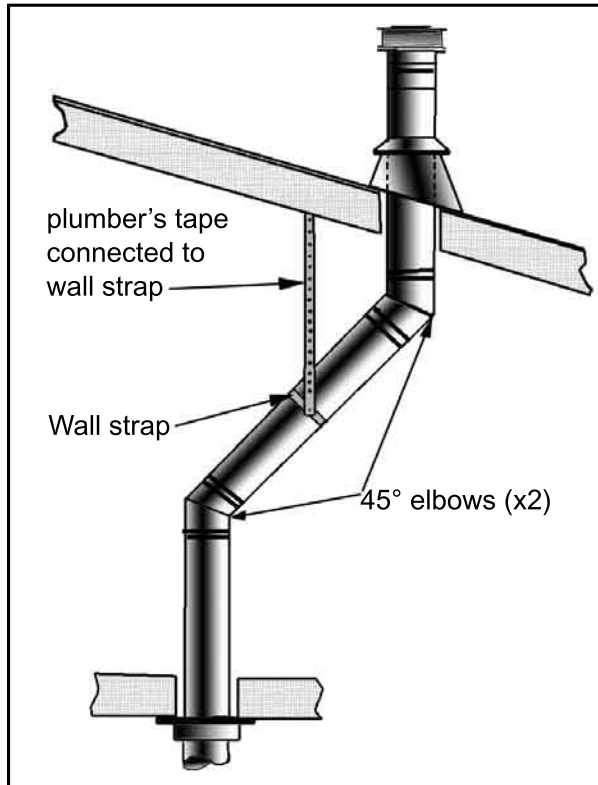

Figure 26: Use of Wall Straps.
- (1) If an offset is necessary in the attic to avoid obstructions, it is important to support the vent pipe every 3 feet (91 cm), to avoid excessive stress on the elbows, and possible separation. Wall straps are available for this purpose (see Figure 26).
- (2) When ever possible, use 45° degree elbows instead of 90° degree elbows. The 45° degree elbow offers less restriction to the flow of flue gases and intake air.